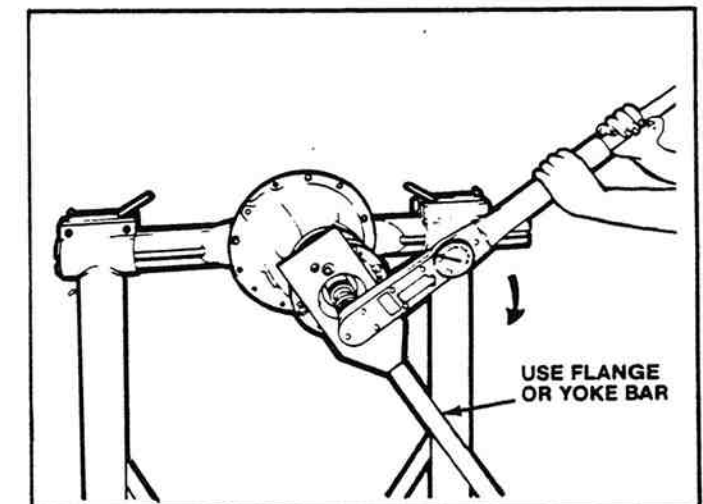

Figure 2-59. Torquing Yoke Or Flange Nut.
- Tighten the pinion nut to minimum 800 ft. lbs (1,085 Nm), maximum 1,100 ft. lbs. (1,492 Nm) (Figure 2-59).